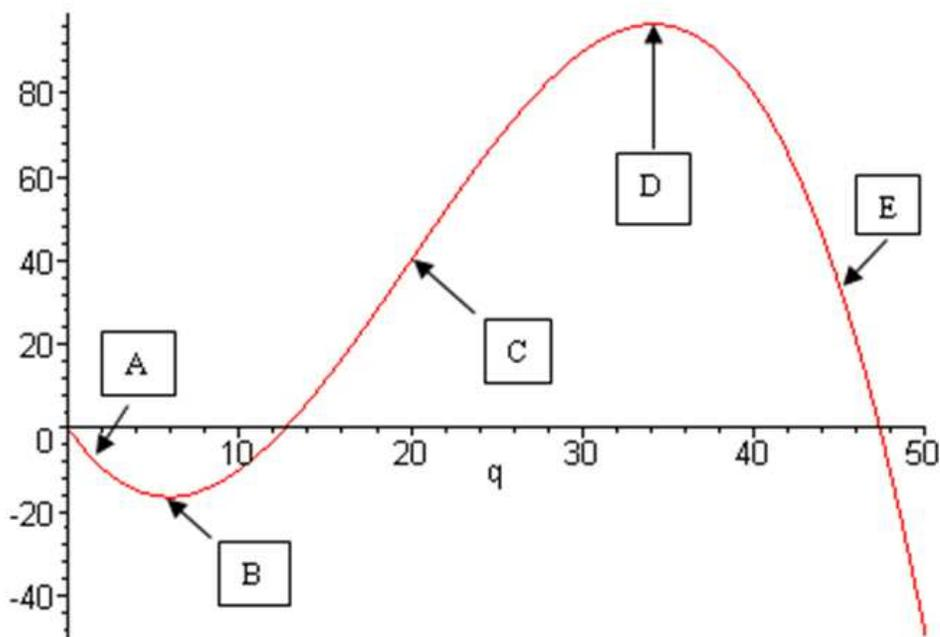

Figure 14.5: Graph and explanation showing the connections between  $f$ ,  $f'$ , and  $f''$ .
**Second Derivative Test** Solving the equation  $f'(x) = 0$  only finds extreme points. You then need to classify the points as maxima or minima (the plurals of maximum and minimum, respectively). One way to do this is by graphing the function. The other way is by evaluating the second derivative of the function at the critical point. If the second derivative is negative, you have a maximum (the graph is concave down, as at Point D in figure 14.5, pge 420.) If the second derivative is positive, you have a minimum (the graph is concave down, as at Point B in 14.5.) If the second derivative is zero, then you don't have a maximum or a minimum, necessarily.